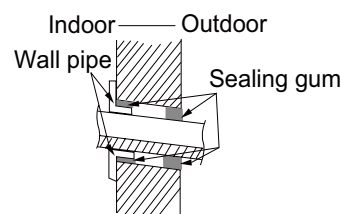

Fig.16
(1) Put the bound pipes in the wall pipe and then make them pass through the wall hole.
(2) Hang the indoor unit on the wall-mounting frame.
(3) Stuff the gap between pipes and wall hole with sealing gum.
(4) Fix the wall pipe. (As show in Fig.16)